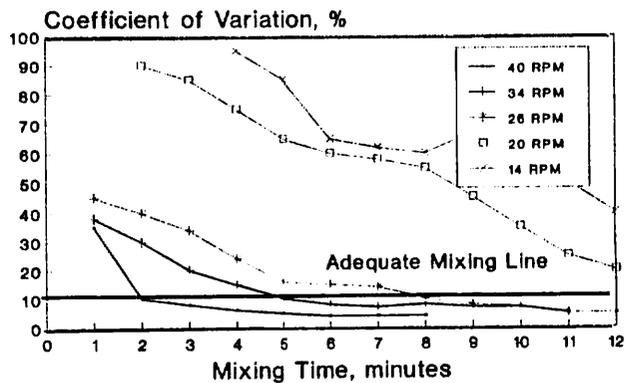

Figure 5. Effect of mixer RPM on mixing efficiency.
**Mixer RPM.** Low revolutions per minute will limit mixing action in both horizontal and vertical mixers (Figure 5). Horizontal mixers should be turning at 30 to 40 RPM, whereas single-screw vertical mixers operate in the 200 to 300 RPM range.